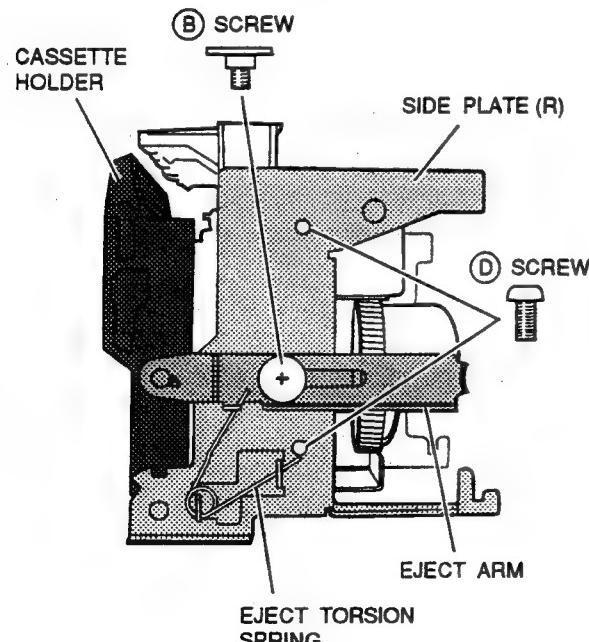

Fig. 3-2
- 1) Remove the \textcircled{B} graduated screw and remove the EJECT ARM and the EJECT TORSION SPRING (refer to Fig. 3-2).